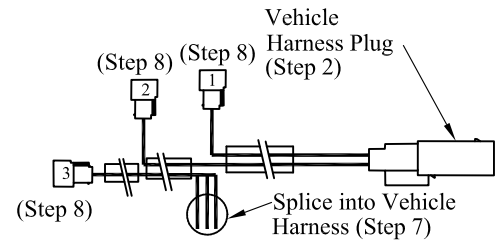

Figure 6: New Sensor harness.
2. **Plug** new sensor harness into vehicle wire harness (Figure 6).
7. **Splice** sensor harness into vehicle harness at location "A", matching wire color (Figure 6).
8. **Plug** sensors into new sensor harness (Figure 6).